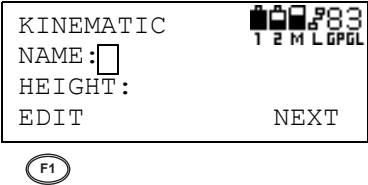

Figure 3-46. Enter Point Name
3. Press **F1** (EDIT) and enter the point name (Figure 3-46). See “Entering Numbers, Letters, and Symbols” on page 3-7 for details on this procedure.